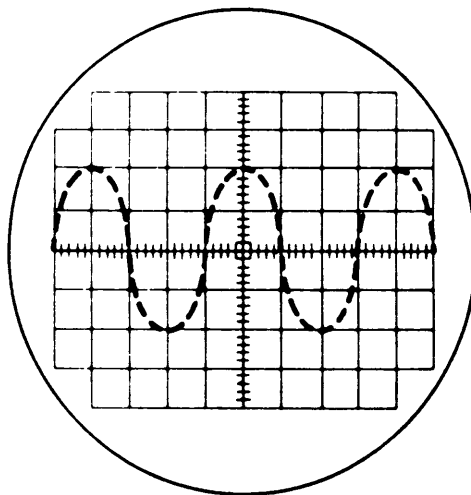

Fig. 7. Oscilloscope trace with Z-axis input.
The trace displayed on the screen may be intensity modulated (Z-axis input) where frequency or time-scale marks are required. A 5-volt peak-to-peak or greater signal applied at the INT MOD (intensity modulation) jack (36) on the rear of the oscilloscope will provide alternate brightness and blanking of the trace. See Fig. 7.